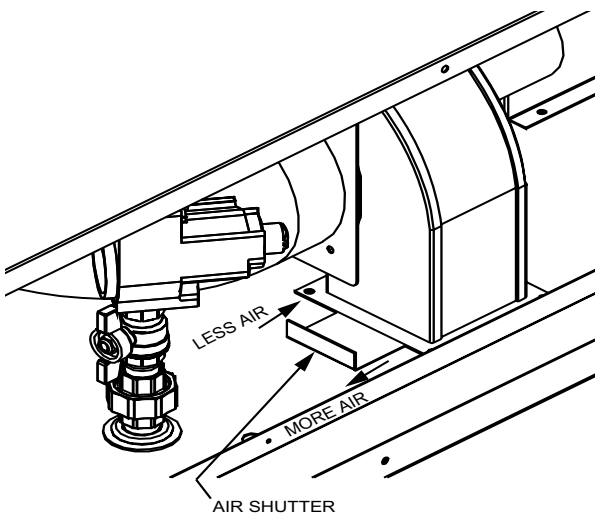
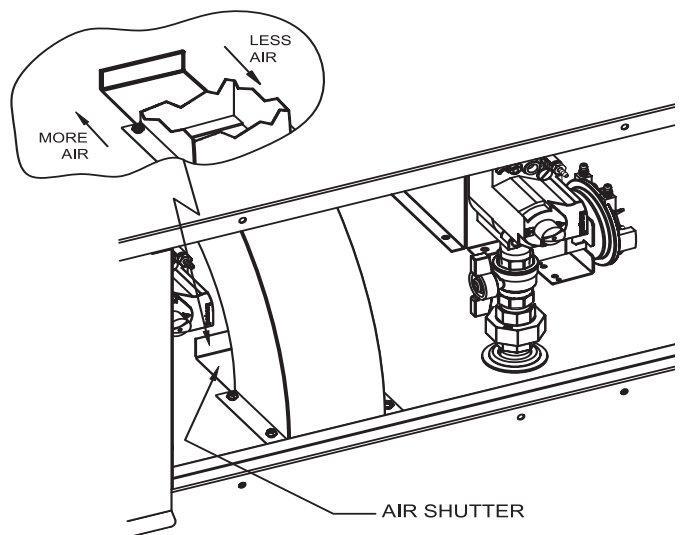

Figure 52 – Adjusting Air Shutter 500,000 - 750,000 Btu/hr
Figure 54 – Adjusting Air Shutter 990,000 - 2,070,000 Btu/hr Models
**Note:** On the 500,000 - 750,000 Btu/hr models the air shutter is adjusted on the side of the fan duct as depicted in Figure 52. On the 990,000 - 2,070,000 Btu/hr models the air shutter is adjusted on the rear of the fan duct as depicted in Figure 54.
3. Depending on model, the air shutter(s) may be located either on the side or the rear of the fan duct. Locate the air shutter at the side/rear of the fan duct (see Figure 52 and 54). Move the air shutter towards the rear or left side of the unit to increase air pressure. Move the air shutter towards the front or right side of the unit to decrease air pressure.